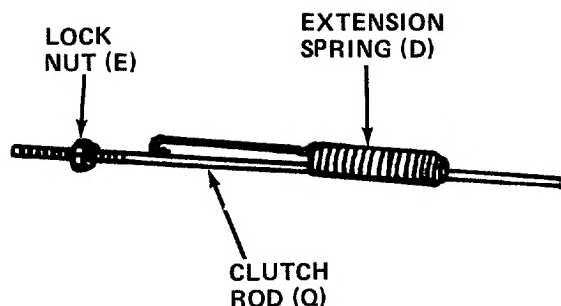

FIGURE 10
7. Slide the extension spring (D) onto clutch rod (Q) as shown in figure 10. Thread lock nut (E) onto clutch rod approximately 2-1/2 inches.